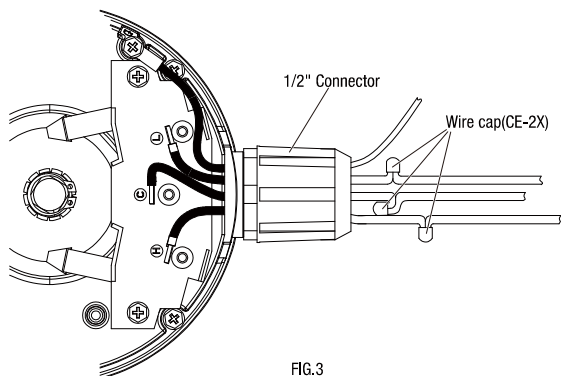

FIG.3
- Install 1/2" connector to rear end cover. Install ground wire to ground rod. using multi-function crimping pliers to connect three wires with three wire caps. (FIG.3)